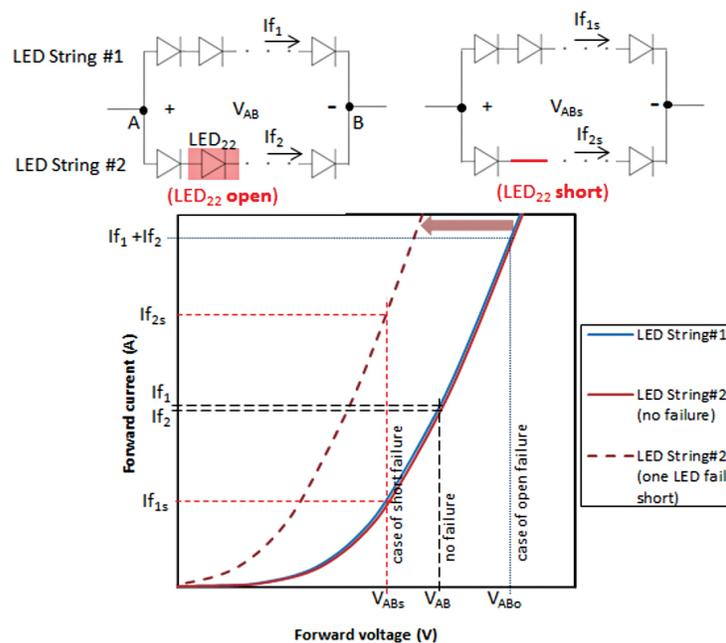

Figure 10. Case example of a series-parallel configuration showing how the current-voltage curve shift when one LED fails short.
A case example: Consider a LED system connected in series-parallel where each LED string has n LEDs in series and there are two parallel LED strings driven by one constant current power supply (Figure 10). In this example, the current flowing through each string (I_{f1} and I_{f2}) is about equal since the two LED strings have good forward voltage matching (by design).
- An open failure on one LED unit (LED₂₂ in Figure 10) results in all of the current ($I_{f1} + I_{f2}$) flowing through LED string #1. The forward voltage of the LED will increase from V_{AB} to V_{ABo} (Figure 10 graph). The increase in both the current and voltage may potentially exceed the thermal design of the LED system or the LED max rating which may cause the LED string #1 to fail eventually.
- Short failure on one LED unit (LED₂₂) in LED string #2 will result in the current-voltage curve to shift to the left as shown in the red arrow of Figure 10 graph. The forward voltage across both LED strings will drop from V_{AB} to V_{ABs} until the total current remains the same as the output of the constant current source i.e. $I_{f1} + I_{f2} = I_{f1s} + I_{f2s}$ where $I_{f2s} > I_{f1s}$. If thermal equilibrium is not achieved immediately in LED string #2, the excessive heating due to increase current flow will continue to shift its current-voltage curve further to the left as shown Figure 11. Eventually the entire LEDs in that string will fail due to cascading failures.